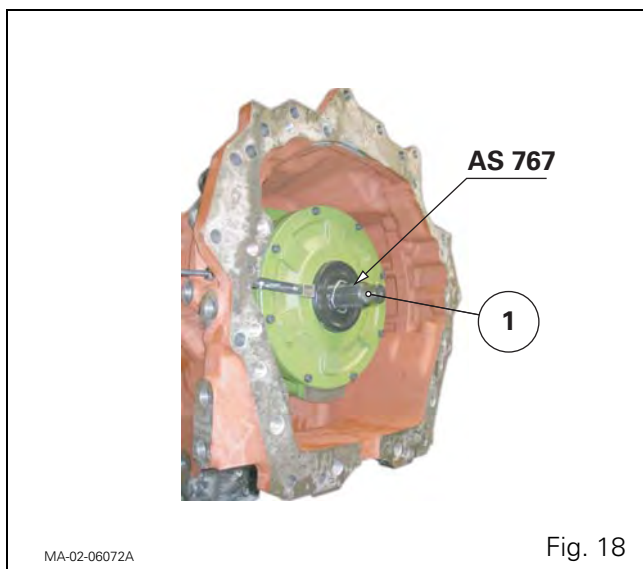

Fig. 18
30. Lightly smear the splines of the input shaft (1) (Fig. 18) with AS767 graphite grease or equivalent.